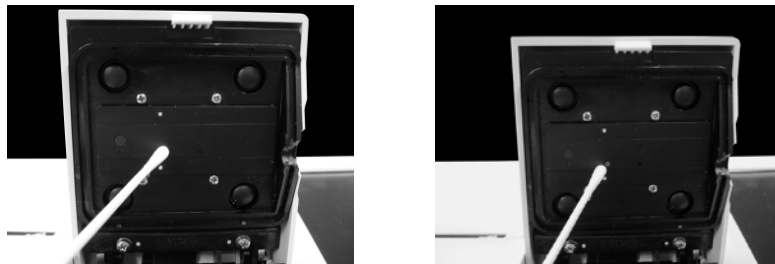

Fig. 7-60 Clean Optical Channels
2. Clean the optical channels using a cotton swab or lint-free cloth dipped in alcohol or ammonia-based cleaner (Fig. 7-60).